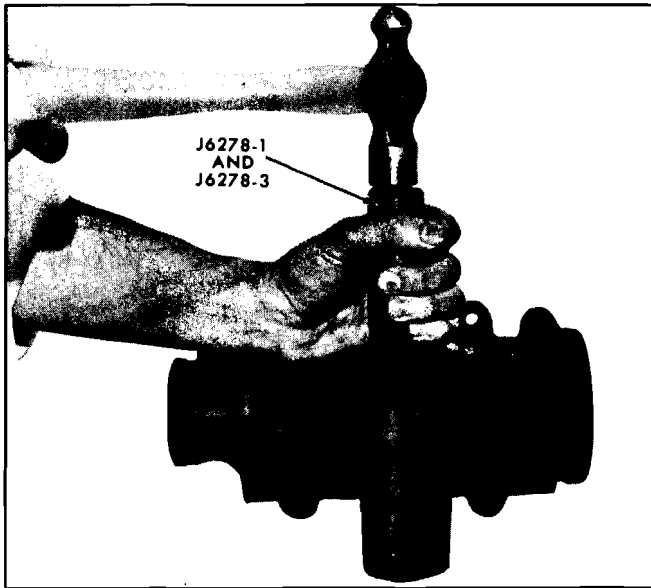

Fig. 9-66 Removing Pitman Shaft Needle Bearing
6. If pitman shaft needle bearings are to be replaced, remove bearing by driving out of housing, using tool J 6278-1 with adapter J 6278-3 (Fig. 9-66).